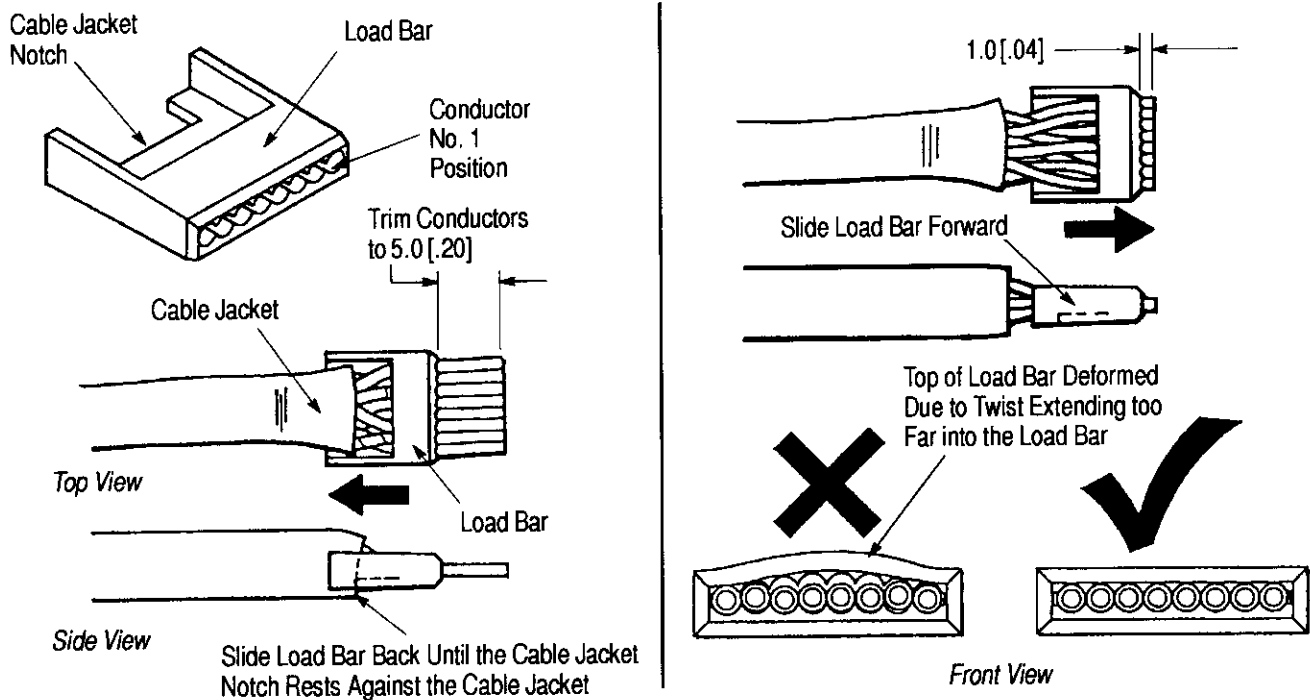

Figure 6
4. **Insert the conductors** (in the required orientation) **into the conductor management load bar**, included with the plug assembly (see Figure 6). (*Hint: The 'floor' of the load bar, between the cable notch and the conductor constraining area, may be utilized to bring the 8-conductor tips into the same plane; this can be an aid for inserting the conductors into the load bar.*) The load bar should be fully slid down onto the twisted conductors until the **cable jacket resides within the notch** in the bottom of the load bar. **Trim the conductors even and square to the front edge** of the load bar, so approximately 5.0 [.2] of each conductor is protruding from the load bar.
5. **Slide the load bar toward the tips of the conductors**, so that approximately 1.00 [.039] of conductor is exposed. **Insert load bar/cable subassembly into the Modular Plug housing**; making sure that the cable jacket resides within the notch in the load bar after insertion. The load bar will slide back into position as it is inserted into the housing. See Figure 6 (side view). **Conductors should not be visible between notch and jacket.**